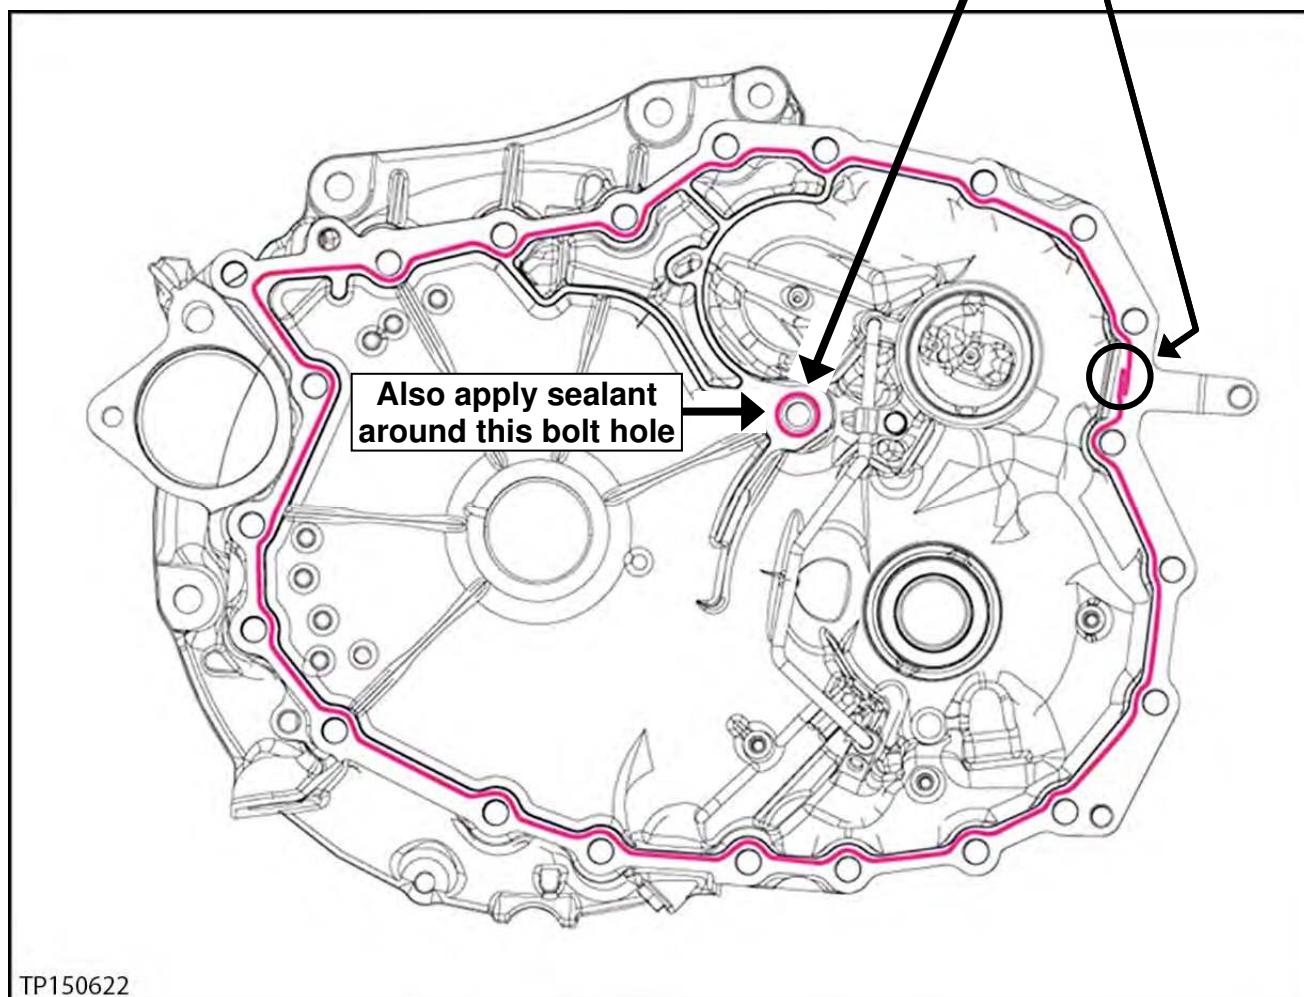

Figure 16I
15. Apply one continuous 2.0 mm (**0.8 inches**) diameter bead (Figure 16I) of pink colored Loctite 5460 Sealant (see the Parts Information section of this bulletin).
- Before sealant application, make sure the mating surfaces are clean from oil, dirt, old sealant, etc. (Figure 16I).